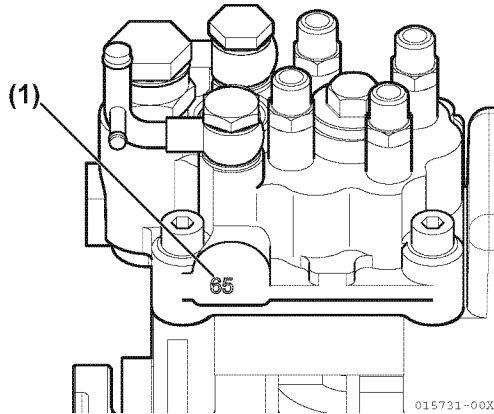

Figure 6-39
NOTICE: If installing a new or recalibrated fuel injection pump, record the timing index number located on the pump housing boss on the engine side of the new or recalibrated fuel injection pump (**Figure 6-39, (1)**). This number will be used to calculate and adjust the final fuel injection timing.